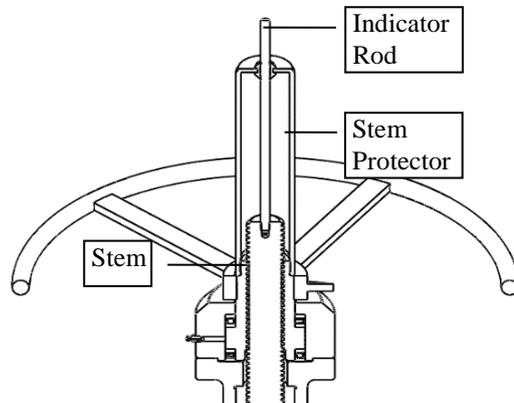

Figure 5
- a) The forged head of the stem fits into a slot in the gate. The upper end of the stem is threaded for operation. A cover or cap protect the stem threads from the elements or from accidental damage. An indicator rod attached to the stem protrudes through the stem protector to provide visual indication of the gate in open or closed position as shown in Figure 5.